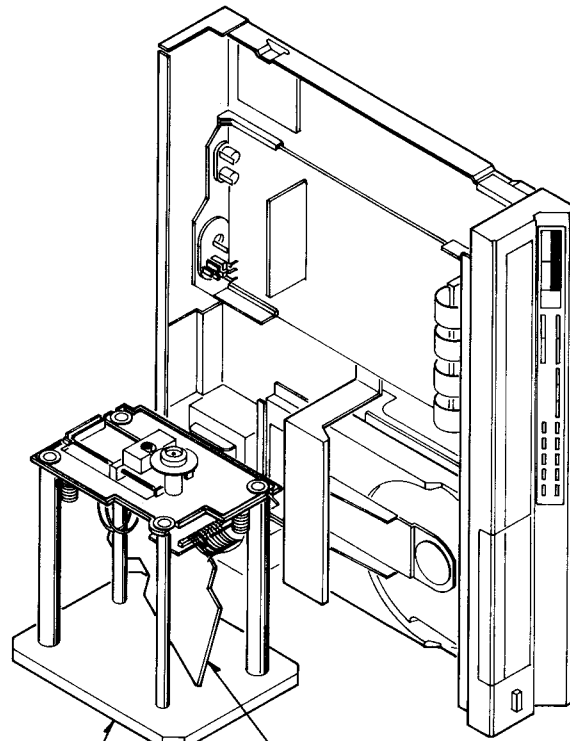

Fig. 28
10. Shift it as in Fig. 28 check.